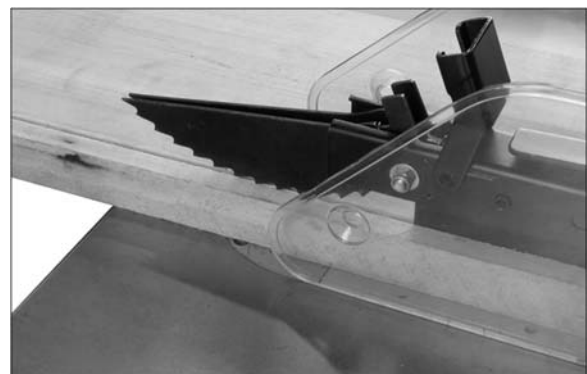

Figure 30
- As the machine receives use, the operation of the anti-kickback pawls should be checked periodically (Figure 30). If the pawls do not stop the reverse motion of a workpiece, sharpen all the points.